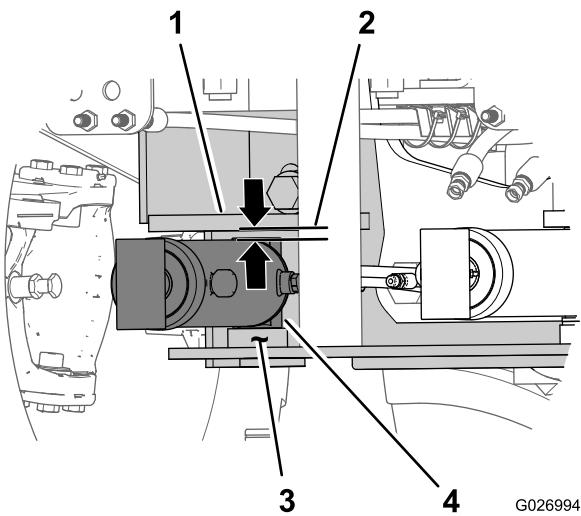

Figure 13
2. Align the mounting fitting at the fixed end of the pivot cylinder on top of the bushing in the bottom plate of the mounting frame (Figure 13).
3. Determine the number of washers (1 x 5/16 inch) needed to reduce the gap between the top of the cylinder mounting fitting and the cylinder lug of the mounting frame (Figure 13).